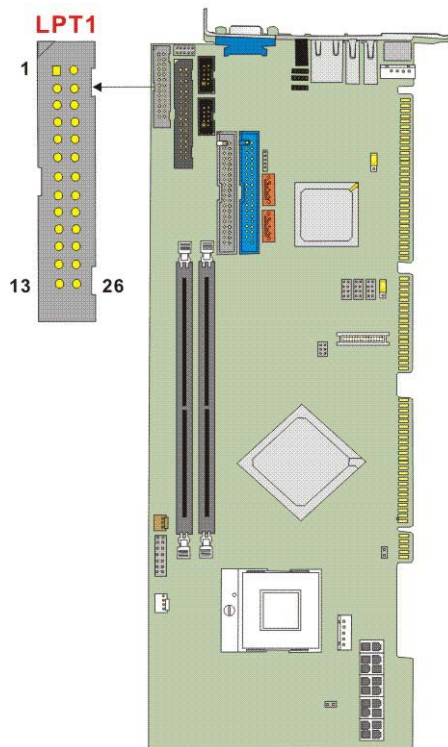

Figure 3-16: Parallel Port Connector Location
- CN Location:** See Figure 3-16